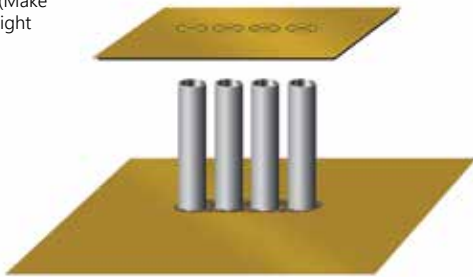

Fig. 7
- A) Cut a patch large enough to overlap 12" in all directions (Fig. 7) of penetrations.